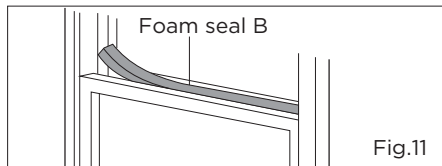

Fig.11
7. Cut the foam seal B to an appropriate length and seal the open gap between the top window sash and outer window sash, as shown in Fig.11.